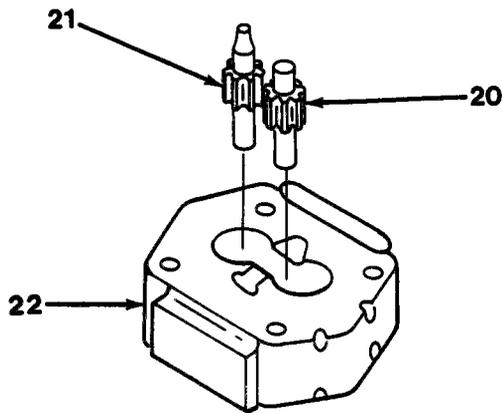

Figure 13-5
5. Align matchmarks and install gear plate (22) on cover plate (23).
6. Align matchmarks and install drive gear (21) and idler gear (20) in gear plate (22, Figure 13-5).